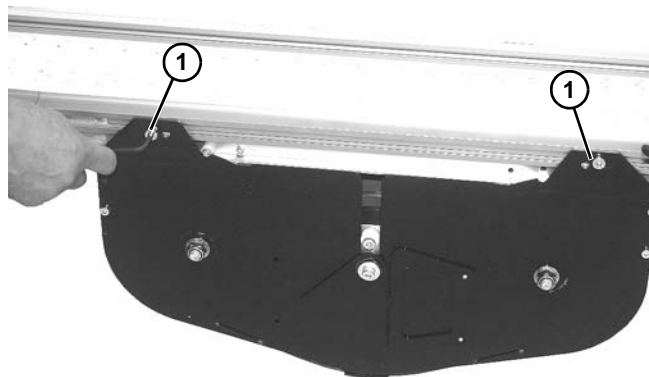

Figure 149
1. Remove two socket head screws (Figure 149, item 1) on each side securing assembly to frame.